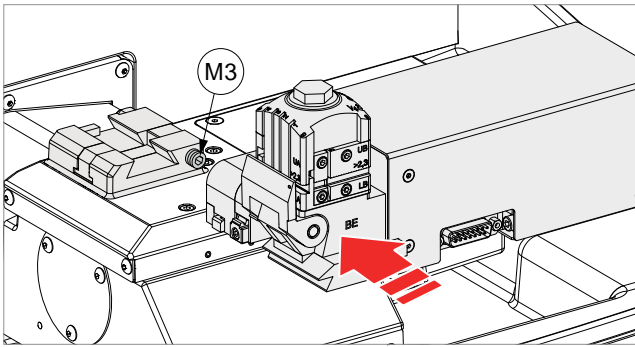

Fig. 25
- 1) Fit the clamp into the special dovetail groove (Fig. 25).